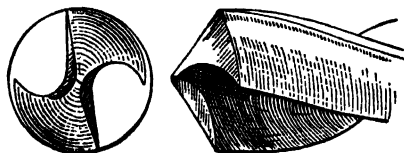

Fig. 8-29. Thinning the point of a drill.
**Thinning the Point of a Drill.** To strengthen a drill the web is made thicker toward the shank. This is not noticeable on drills under  $\frac{3}{4}$  in. in diameter; but on larger sizes, as the drill is shortened, it becomes necessary to grind the point somewhat thinner as shown in Fig. 8-29. Use a narrow grinding wheel and be careful to preserve the center by grinding an equal amount from each side, and also not to weaken the web unnecessarily by thinning too far back.